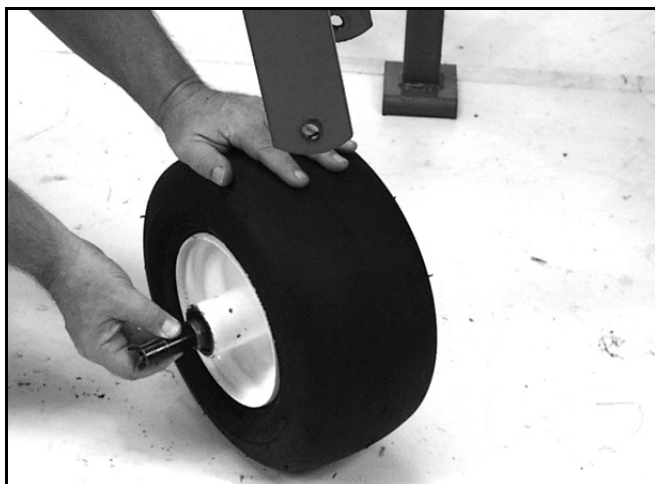

Figure 98
3. Remove the sleeve that passes through the wheel bearings (Figure 98).